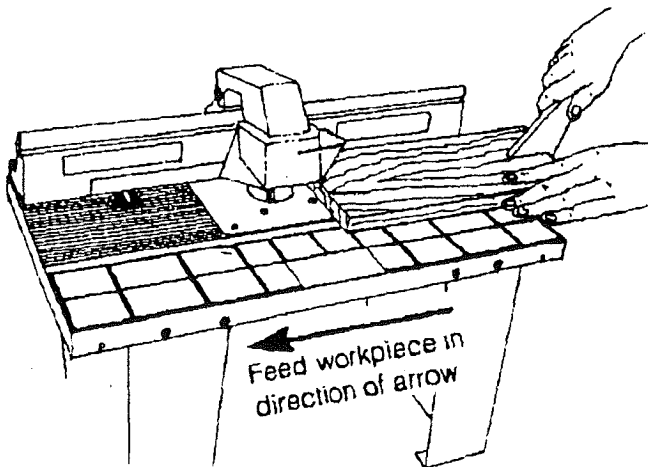

FIGURE 34
WHEN ROUTING, ALWAYS FEED AGAINST THE ROTATION OF THE CUTTER. FEED WORKPIECE IN THE DIRECTION OF ARROW IN FIGURE 34.
4. Make the cut by sliding straight edge of workpiece against the fence. Use a push stick as shown in Figure 34. (For each successive cut, the fence would need to be re-adjusted).
NOTE: Test cut a piece of scrap wood before making your finish cut. Feed workpiece in the direction of arrow (Refer to Figure 34).